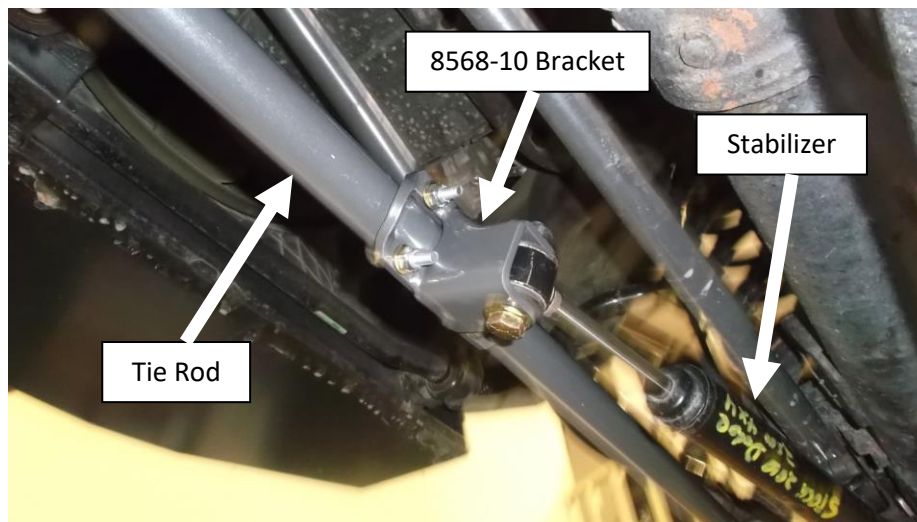

Figure 13. Steering Stabilizer Shown Mounted to 8568-10 Bracket
25. Attach the free end of the stabilizer to the 8568-10 bracket as shown. Install the 1/2-20 UNF x 2.5" long bolt and use a washer under both the bolt head and stover nut. Do not fully tighten bolt at this time. See **Figure 13**.